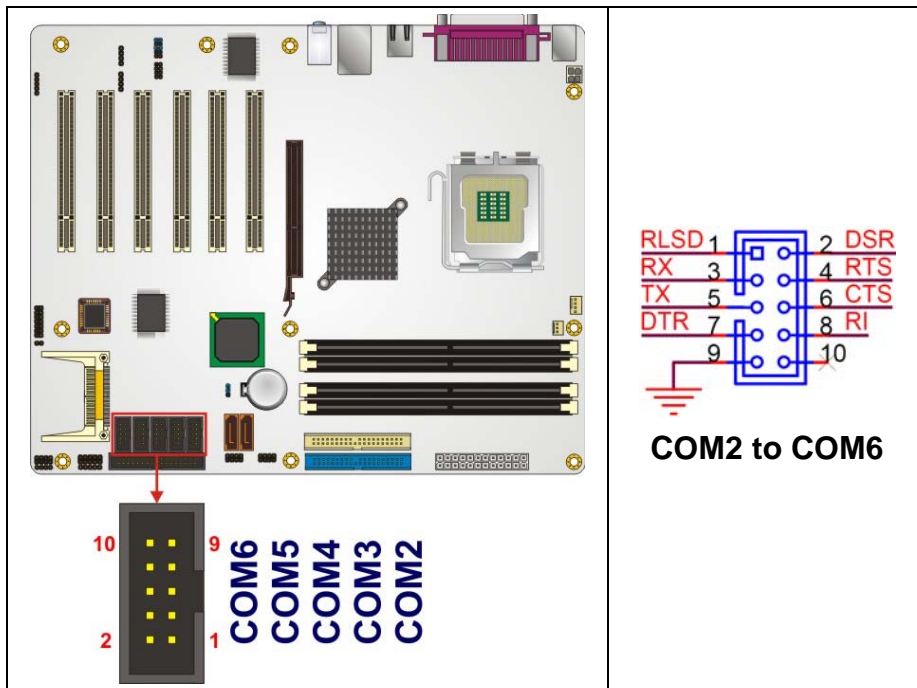

Figure 4-18: Serial Port Connector Pinout Locations
- CN Location:** See **Figure 4-18**